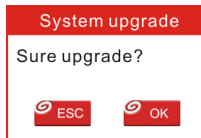

Figure 7-8
11. Once all steps are complete, reinsert the TF card into the tool and power the tool via USB in computer or via OBD2 port in vehicle. The tool will prompt you to upgrade, click [OK] to start updating and a progress bar will appear. It may take several minutes to finish update if your upgrade package file is too large, please wait. (Figure 7-8)